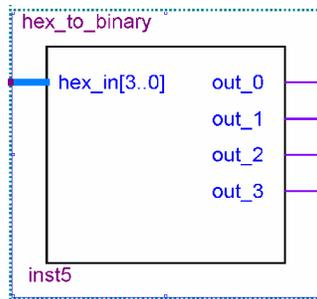

Figure 6: Black box of hexadecimal-to-binary converter.
- 5) We want to display your inputs and outputs on the DE2 board in hexadecimal. Therefore, you will need to write a simple VHDL code that converts binary into hexadecimal. Imagine this as a black box. The black box would have a single 4-bit input and four 1-bit outputs. To help you understand what you are writing code for, there is an illustration below in figure 6.
- 10) When the values are output from each full-adder, they must be converted back to hexadecimal. Therefore, you must now write a small VHDL file that will create the exact *opposite* as figure 6. In other words, you want to convert binary to hexadecimal. You must then create a symbol block out of your VHDL code. A image of what a block like this would look like is shown below.